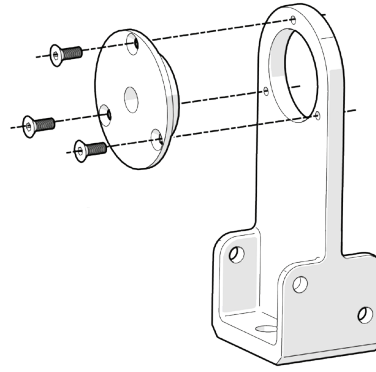

Figure 1A
1 Install bushings to Ears [610824]. The correct bushings to be installed are determined based on the end-of-stick pin diameter size of your prime mover. Fasten (1) bushing to each ear with (3) 3/8"-16 UNC flat socket head screws [174348] using 1/4" hex key. Tighten screws to 30 ft/lbs dry or 23 ft/lbs lubricated. (Figure 1A)